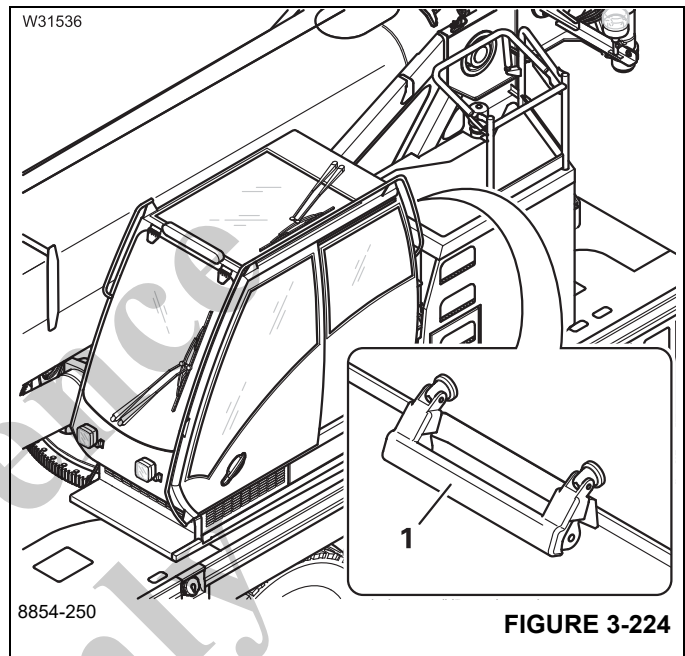

FIGURE 3-224
- Raise the handle (1), (Figure 3-224).
- Push down handle (1).